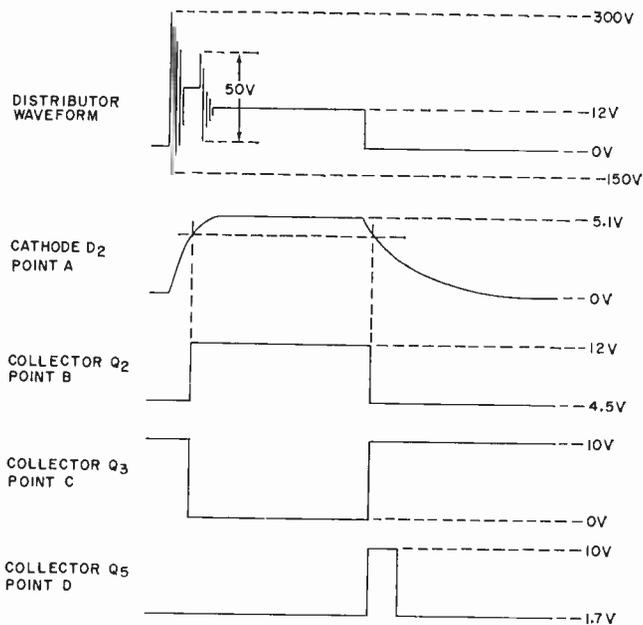

Fig. 4. Typical waveforms found on a 4-cylinder engine. To see ringing and steep rise times, a high-quality scope is needed.
slower-falling waveform as shown in Fig. 4. To overcome this, a waveform regenerator, or Schmitt trigger circuit, consisting of  $Q1$  and  $Q2$  and associated components is used;  $Q1$  is normally off and  $Q2$  on. The value of  $R4$  is chosen to reduce the hysteresis gap to 0.4 volt. Transistor  $Q1$  turns on when the voltage on its base reaches 4.2 volts and turns off again at 3.8 volts. The cut-in and cut-off levels chosen, together with the small hysteresis gap, produce a waveform at the collector of  $Q2$  with the exact duty cycle of the distributor waveform. The rise time of the waveform at the collector of  $Q2$  is 100 nanoseconds.
**Waveforms.** The waveforms shown in Fig. 4 will be found useful when troubleshooting the circuit. They were observed with a 50-MHz oscilloscope using a 10-megohm, 7-pF probe. The amplitudes given for the distributor waveform are approximate since they vary with different types and makes of engines. The distributor ringing waveshape shown is fairly typical for all engines. Note that the amplitude and width of the pulses appearing at the collector of *Q5* are independent of engine characteristics and performance; only the number of these pulses per unit time is significant.